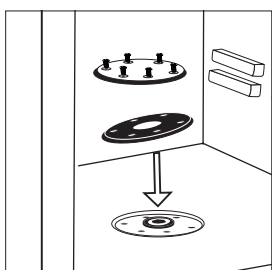

Figure 11
10. Replace the gasket and mounting plate cover by using a phillips screwdriver to replace the 6 screws to secure the mounting plate into place (Figure 11).